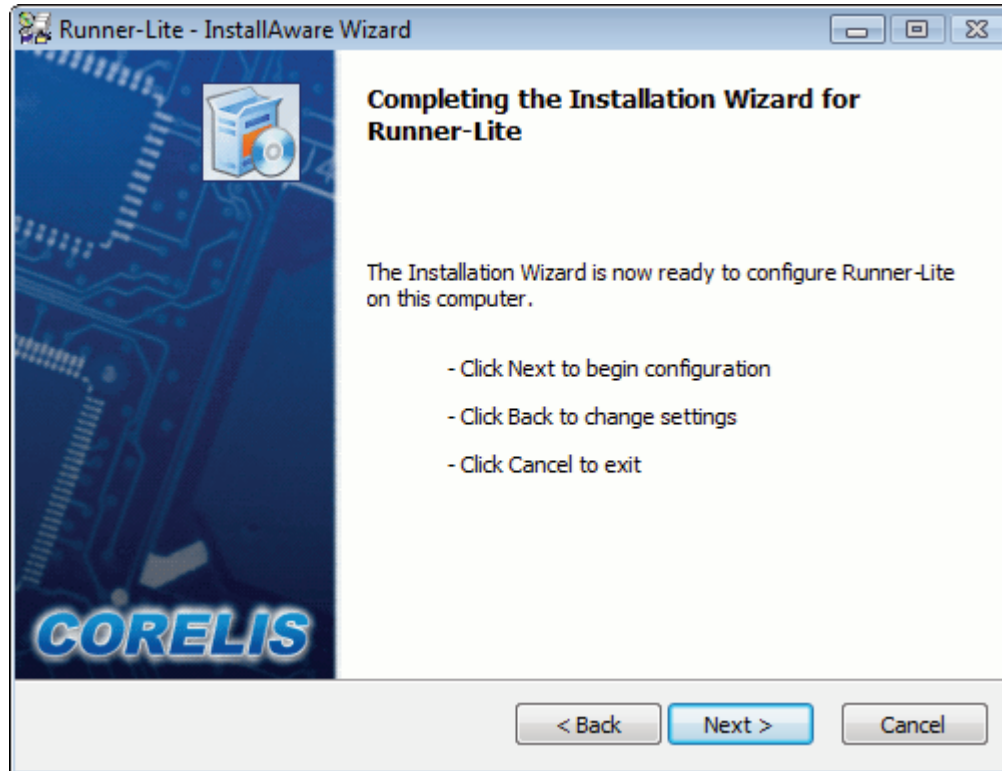

Figure 2-8. Completing the Installation Screen
9. The **Completing the Installation** screen shown in Figure 2-8 will now appear and is the last screen to appear before the application files are copied to your computer. If you need to change any of the installation parameters, click on the **Back** button. Otherwise, click on the **Next** button and the installation process will begin.